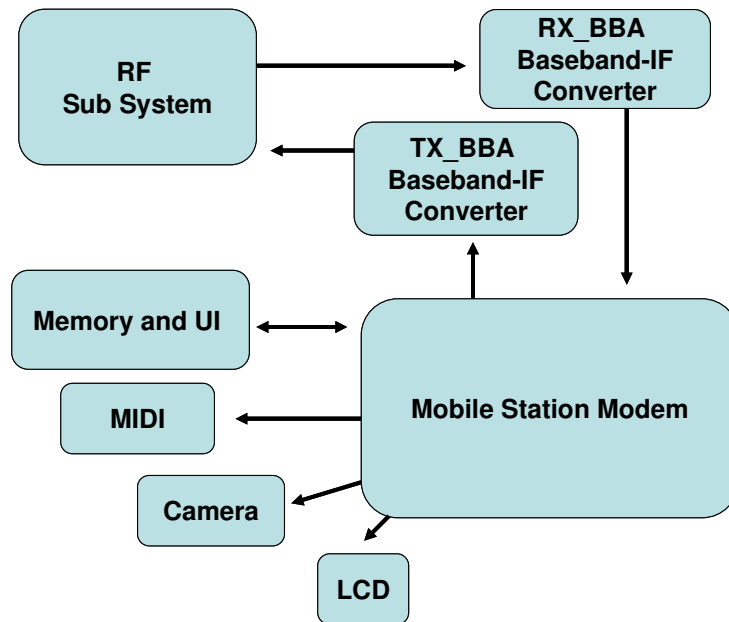

Figure 4.1 Typical Subscriber Unit Block Diagram
This product consists with 3 parts, which are RF, logic, and UI interface. The block diagram is shown in Figure 4.1. This product employs the Super-Heterodyne method for wireless communication and the Tx and Rx frequencies are 824.04~848.97MHz and 869.04~893.9MHz respectively. RF signals received through the antenna are fed into the low noise amplifier (Receiver MMIC/ LNA, U106) through the duplexer (F100). Then, they are combined with the signals of local oscillator (VCO, U102) at the down conversion mixer (Receiver MMIC, U106) in order to create the intermediate frequency (IF). The IF signal is fed into RX\_BBA(U109) through band-pass filter (BPF, U108),. In RX\_BBA(U109), the IF signal is changed into base-band signal. Then, this signal is changed into the digital signal by the analog to digital converter (ADC, A/D Converter), and the digital circuit part of the MSM(U125) processes the data from ADC. In the case of transmission, The TX\_BBA(U112) receives digital signal from the MSM(U125). In MSM(U125), the digital signal is changed into analog signal by the digital to analog converter (DAC, D/A Converter), and then the quadrature signals of base-band are up-converted to the IF frequency bands in TX\_BBA(U112). The Tx AGC in TX\_BBA(U112) is designed to be gain-controlled from 85dB dynamic range. In TX\_BBA(U112), the Tx IF frequency mixed with RF local frequency is created Tx RF frequency. After that, the Power amplifier module(U110) amplifies the RF signal in order to have enough power for radiation. Finally, the RF signal is sent out to the cell site via the antenna after going through the duplexer (F110).